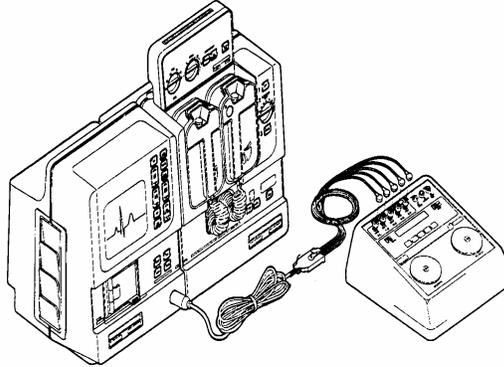

Figure 2.5 ECG Lead Configuration
- 2) Connect the ECG patient leads to the DA2000 as shown in **Figure 2.5**.